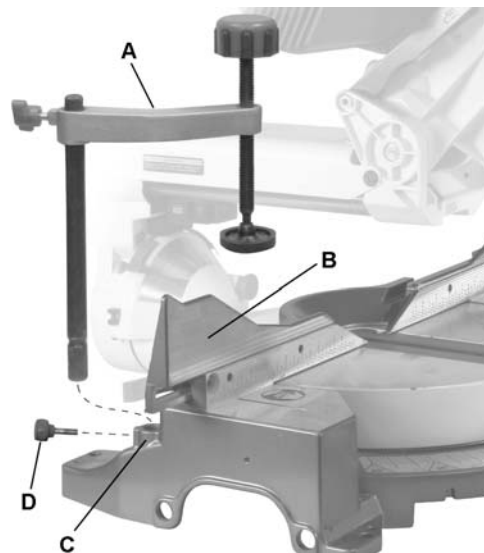

Figure 4
1. Place the *hold-down clamp assembly* (A, Fig. 4) in a mounting hole located behind the right or left fence.
2. Thread the *hold-down clamp knob* (D) into the hole located at the rear of the saw base.
3. Tighten the *hold-down clamp knob* (D).